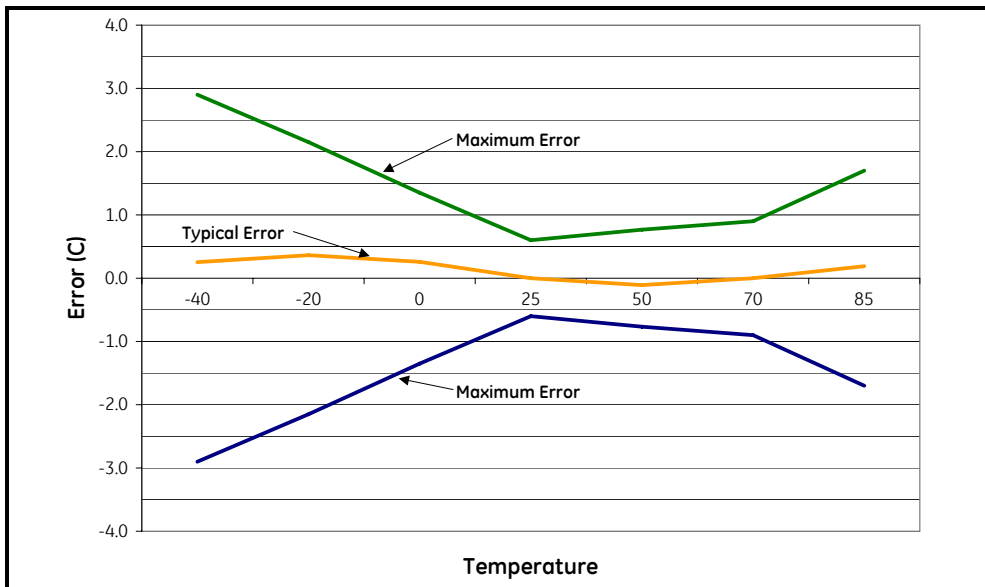

Figure 1: Temperature Accuracy Graph
**Temperature Accuracy:**  $\pm 0.6^\circ\text{C}$  at 25°C (see Figure 1 on page 2)